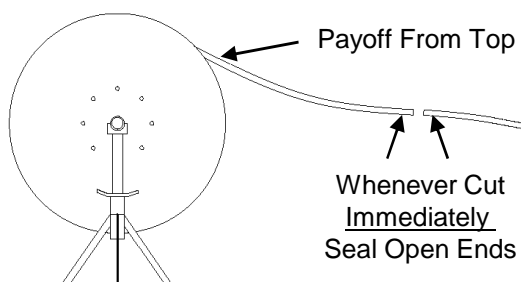

Figure 2
5.10 Set reels up so tube cables payoff from the top of the reel during installation. **See Fig. 2.**